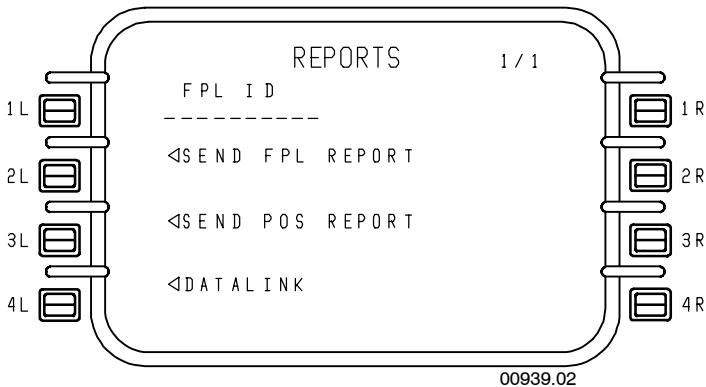

Figure 6-86
- **REPORTS 1/1** – Upon selection of the **REPORTS** prompt (2L) on the **DATALINK INDEX 1/X** page, the **REPORTS** page is displayed. This is shown in Figure 6-86.